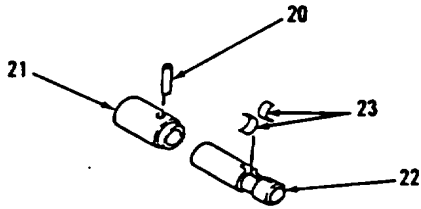
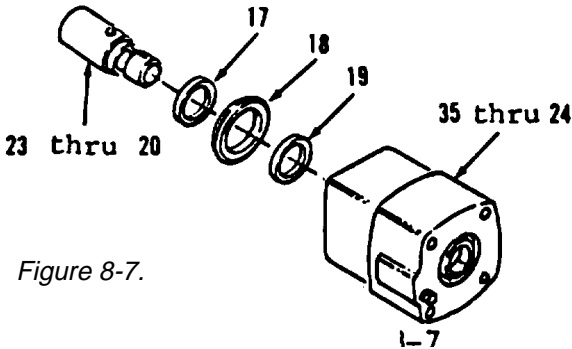

Figure 8-8.
Figure 8-7.
- 3. Install new preformed packing (25), items 35 thru 33 as an assembly and snap ring (24) in pump body (32).
- 4. Install spool (22), sleeve (21) and pin (20, Figure 8-8).
- 5. Install six springs (23) in spool (22) and sleeve (21). Make sure the curves of the springs (23) are in contact and in center of spool.
- 6. Install race (19), bearing (18), race (17), spool and items 23 thru 20 as an assembly into items 35 thru 24 as an assembly (Figure 8-7).